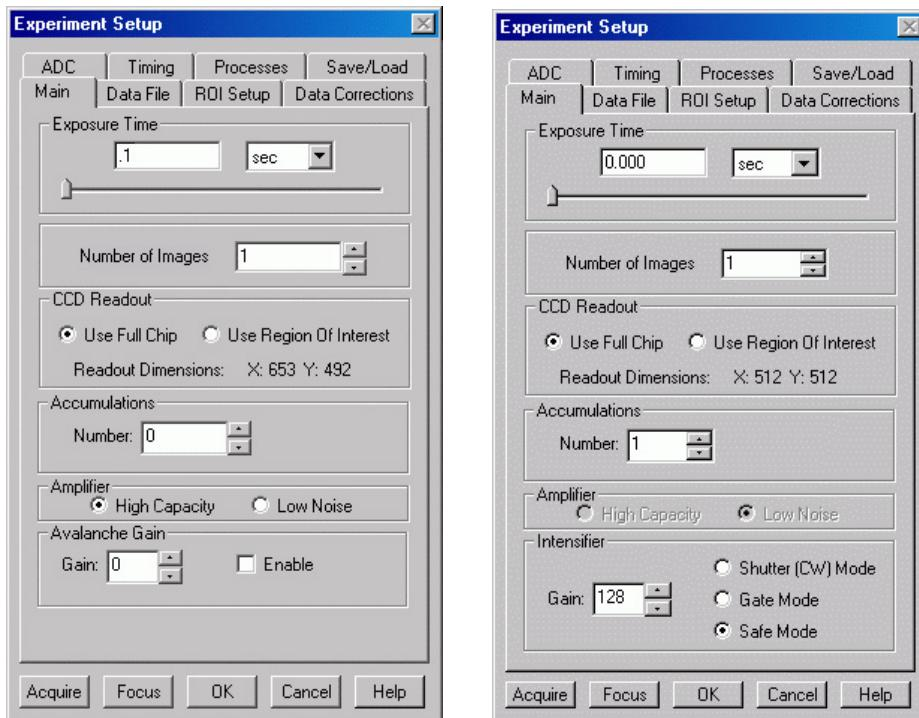

Figure 41. Experiment Setup: Main tab page; left, all but PI-MAX; right, PI-MAX
1. Open the Experiment Setup dialog box (Figure 41) from the Acquisition menu.